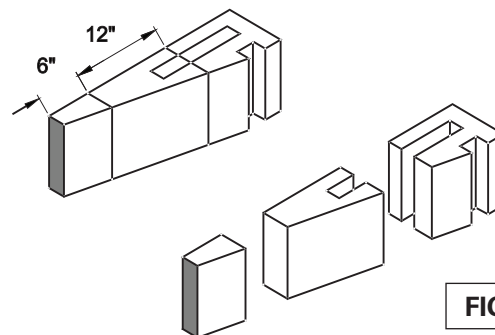

FIGURE 21
3. Cut twelve inch section of sidewall out of base sidewall on just one side of unit. **(Figure 21)**